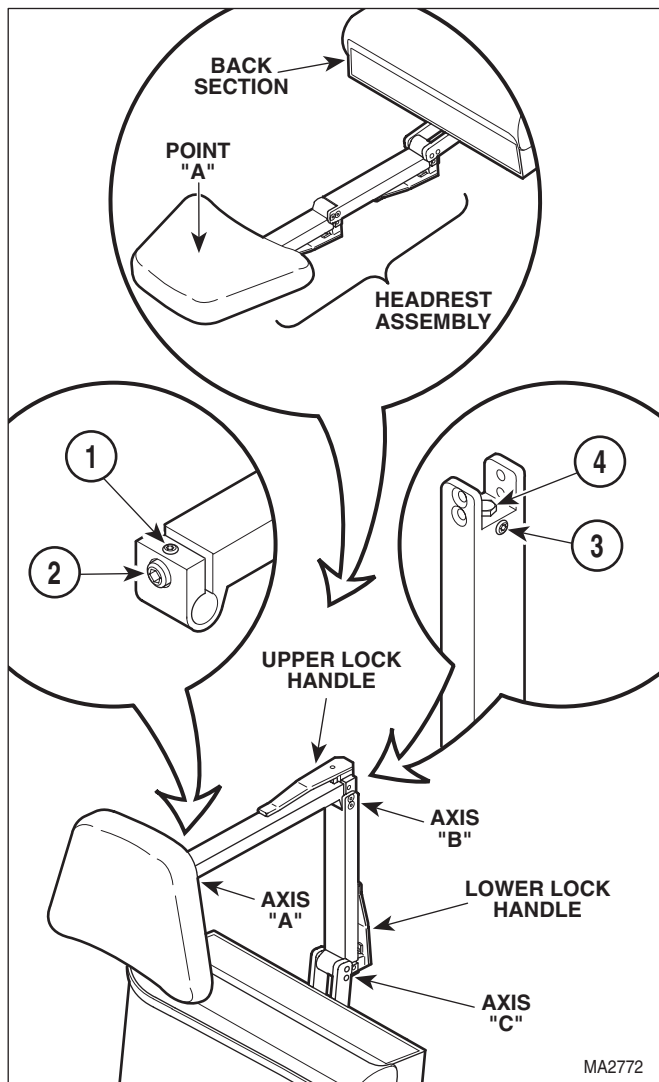

Figure 4-28. Headrest Adjustment
- (1) Unlock upper lock handle (See Figure 4-28).
- (2) Loosen setscrew (1, Figure 4-28).